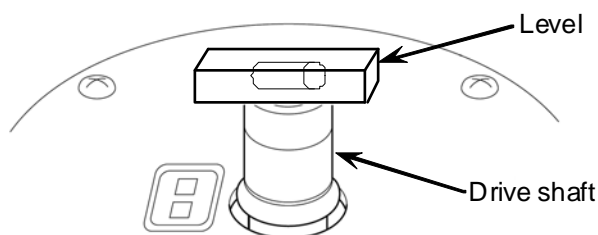

Figure 5-3. Level Placement
(2) Turn on the power switch on the ultracentrifuge, open the chamber door, and then turn off the power switch. If this ultracentrifuge is still unplugged, refer to section “Emergency Recovery from Power Failure”, remove the front cover, and open the chamber door.
(3) Place the level furnished with this ultracentrifuge on the drive shaft in the rotor chamber and turn the four level adjusters to adjust the levelness of this ultracentrifuge (figure 5-3).
(4) After adjusting the levelness, make sure that the four level adjusters are placed on the floor properly. If the ultracentrifuge does not rattle when it is lightly pushed around, it is installed properly.